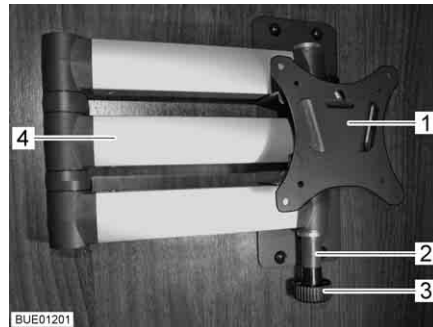

Fig. 74 Holder with jointed arm
- Pull the release knob (Fig. 74,3). The jointed arm (Fig. 74,4) is unlocked.
- Turn the flat screen back into the original position until the holder (Fig. 74,1) engages in the lock (Fig. 74,2).